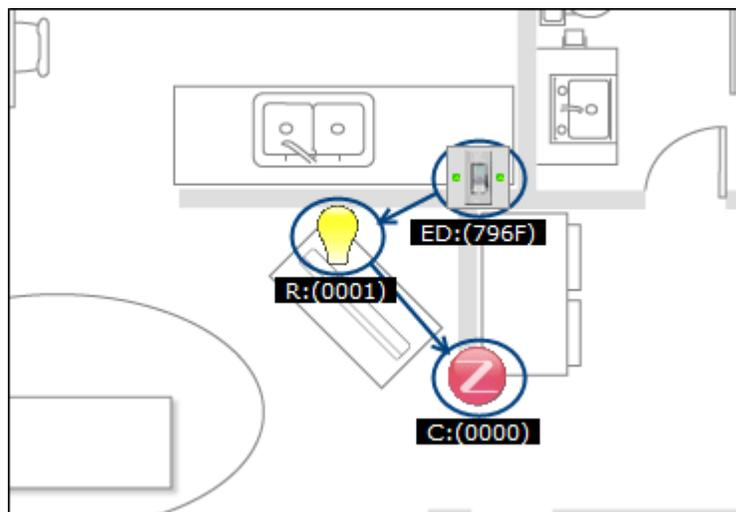

Figure 4-13. The On/Off Light State changes to On
11. Briefly press SW1 on the board that is running the On/Off Switch application. This button toggles the remote light. LED2 on the board that is running the On/Off Light application will turn on. As shown in Figure 4-13, the On/Off Light is represented in the ZeD Main window as a light-bulb icon in the on state. Another press of SW1 toggles the light to off again.